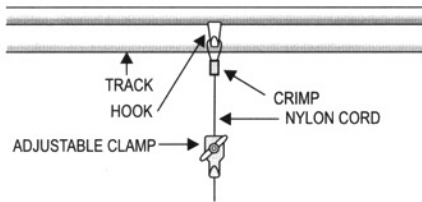

FIG.5
- (iii) Place the crimped loop of clear nylon cord over the hook (see FIG.5)